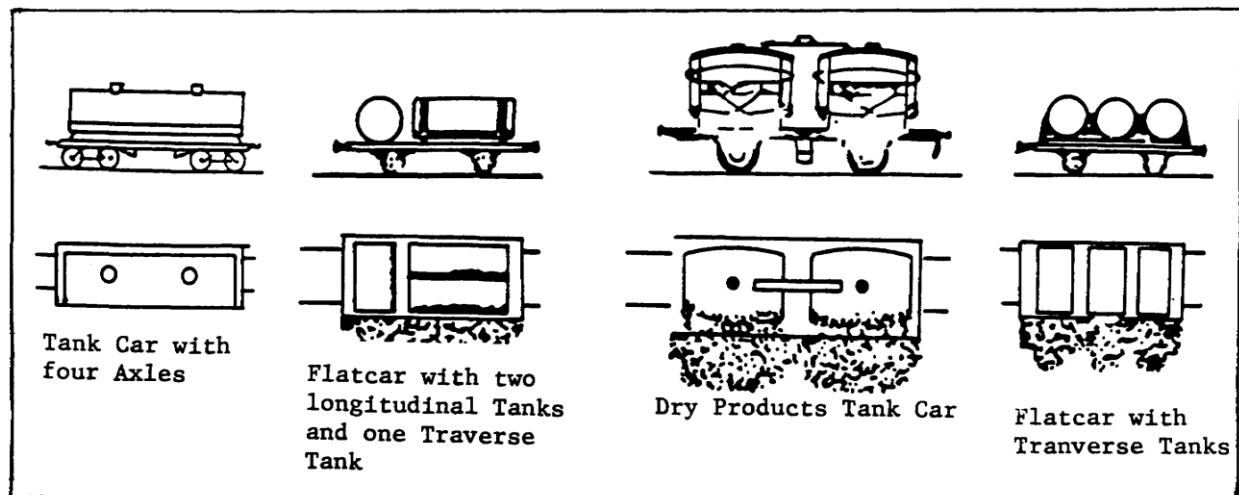

Figure 1-40. Tank Cars.
d. Tank cars are easily recognized by their characteristic round tank, mounted horizontally on wheels or with two or three round tanks mounted sideways on a flatcar. These are used for POL, chemicals or water (Figure 1-40).